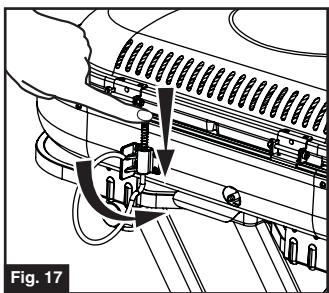

Fig. 17
- Press on cylinder support on back of grill and swing out. (Fig. 17)